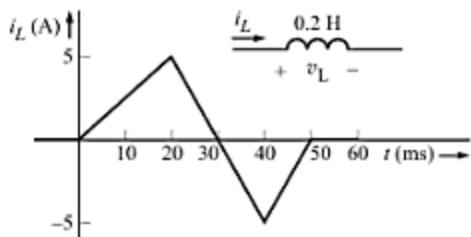

Fig. B-8
- B-36.** With reference to Fig. B-8, (a) find the value of time at which the inductor is absorbing the maximum power, (b) find the value at which it is supplying maximum power, and (c) find the energy stored in the inductor at $t = 40$ ms.